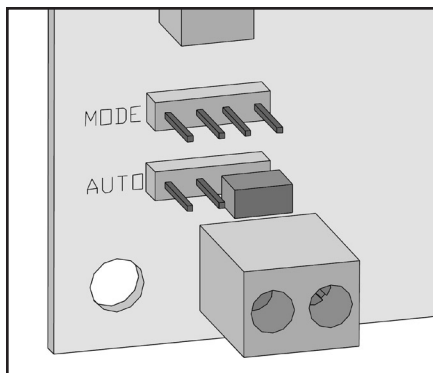
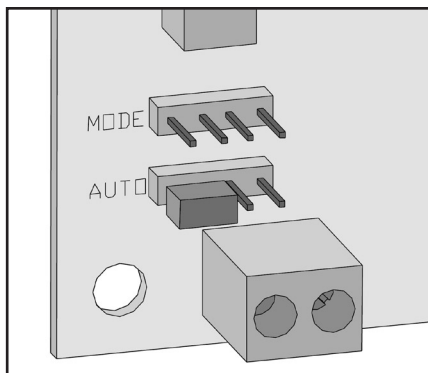
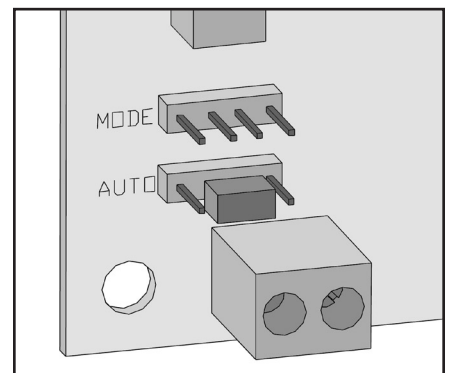

Figure 11: Auto pins set-up MANUAL.
Figure 12: Auto pins set-up ON/OFF.
Figure 13: Auto pins set-up HI/LOW.
This control board can be placed into three (3) different modes: Full Auto ON/OFF, High/Low Thermostat or Manual Mode. From the factory the far right AUTO pins are jumped and the control board is in manual mode operation (see Figure 11). If the far left AUTO pins are jumped the circuit board is in Full Auto ON/OFF mode (see Figure 12). When the center AUTO pins are jumped the unit is in the HI / LOW thermostate mode (see Figure 13), the unit will be taken to a low or idle setting when the thermostat is not calling for heat. When the thermostat calls for heat, the unit will go to the setting that is displayed on the control board Heat Indicator.